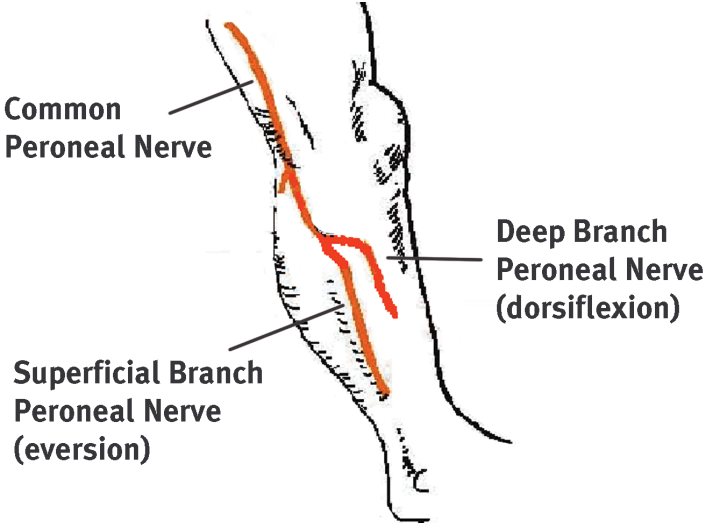

Figure 23: Superficial and deep branches of the common peroneal nerve
There are two primary purposes of the peripheral nerve stimulator testing procedure. The first is to determine the viability of the common peroneal nerve and the degree of innervation of the peroneus longus (superficial branch) and tibialis anterior (deep branch) muscles. The second purpose is to identify initial placement of the posterior electrode to produce a ‘balanced’ dorsiflexion and eversion movement of the foot/ankle. (Figure 23)
4. Identify (and mark) the head of the fibula. The common peroneal nerve runs posterior and distal to the head of the fibula. (Figure 23)